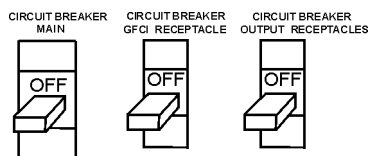

Figure 44. Main, GFCI and Load Circuit Breakers
1. Be sure to disconnect the electrical load and switch the **main, load** and **G.F.C.I.** circuit breakers (Figure 44) to the "OFF" position prior to starting the engine.